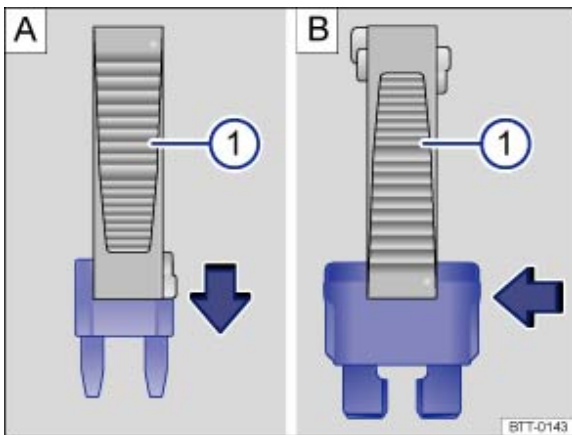

Fig. 241 Removing or fitting the fuse using the plastic pliers
- If applicable, take the plastic pliers → Fig. 241 ① out of the fuse box cover.
- For *small fuses*, push on the catch → Fig. 241 ① from above → Fig. 241 A.
- For *bigger fuses*, push the catch → Fig. 241 ① onto the fuse from the side → Fig. 241 B.